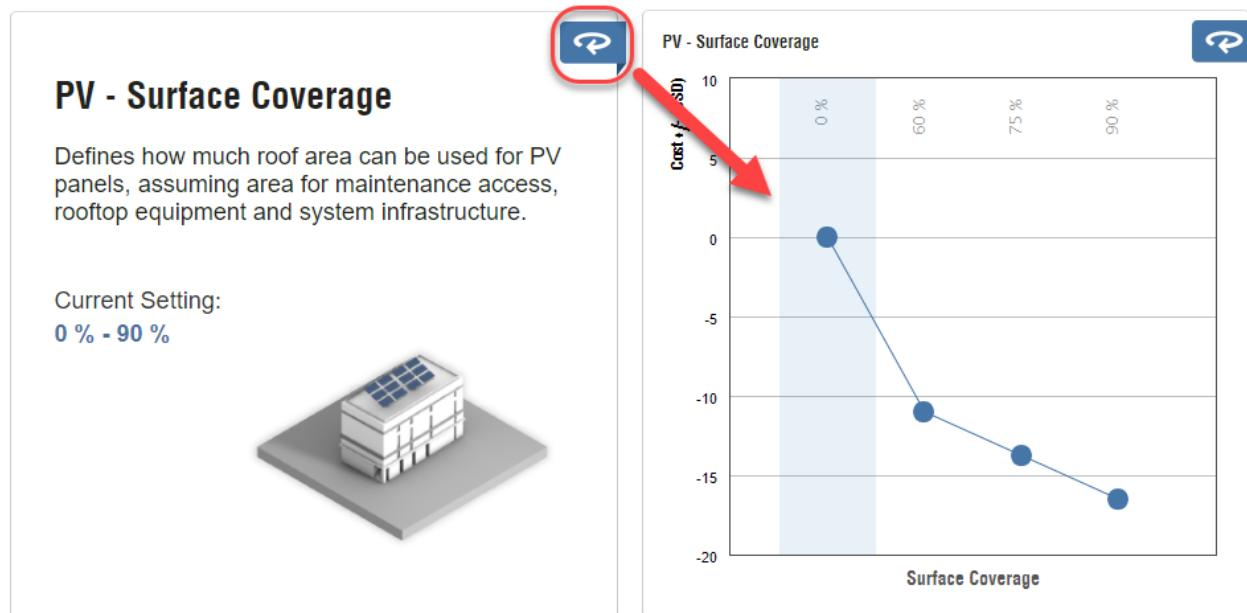

Figure 1.10: Changing the PV to 0%
Let's add one more where the photovoltaics (PV) is not being counted by default. Scroll-down to the bottom and select “PV – Surface Coverage” to open the tile. Select it and change the sliders so it is set to “0%” for PV, see Figure 1.10.